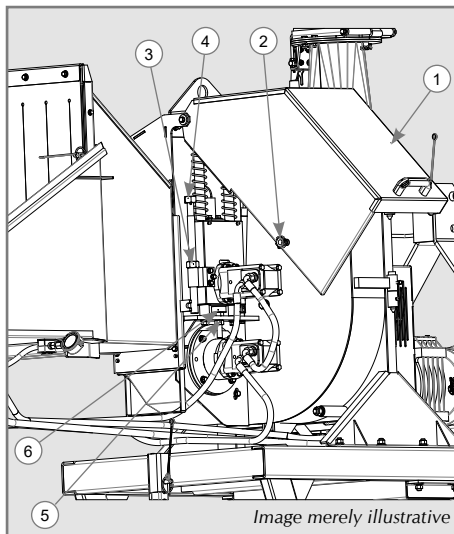

Figure 14
- ✓ Depending on the size of the material to be shredded, the opening between the feeding rolls may be changed, as per Figure 14. To shred leaves and woods with up to 5 cm of diameter, it is best to leave the minimum height regulation between the rolls; for materials sizes larger than 5 cm, the upper roll may have a broader opening to facilitate the entry of the material onto the roll.
- Open the protection lid of the engines (1) loosening the fixing knob (2). Then, loosen the counter nut (3) of the height regulation bar (4), and, using an appropriate wrench, turn the bar clockwise to suspend the upper roll or anti-clockwise to approximate it to the lower roll. The height of the jamb (6) must be adjusted according to the upper roll regulation. Next, secure the counter nut (5) of the jamb. After completing the adjustment, resume the regulation bar (4) to the original position and lock the counter nut (3), as per Figure 14.